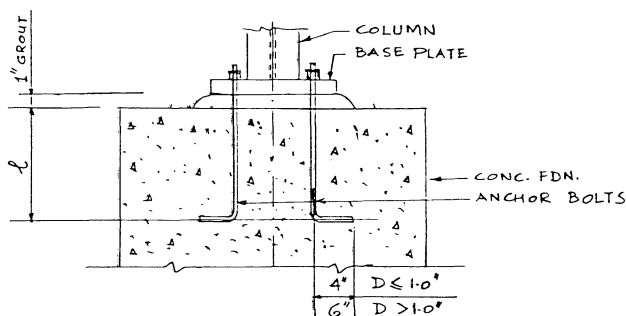

Figure 1
**Given:** Design anchor bolts for a column base plate for an uplift of 100 kips, and a shear load of 40 kips due to wind or seismic loading. Use 4 anchor bolts. (See Fig. 1.)